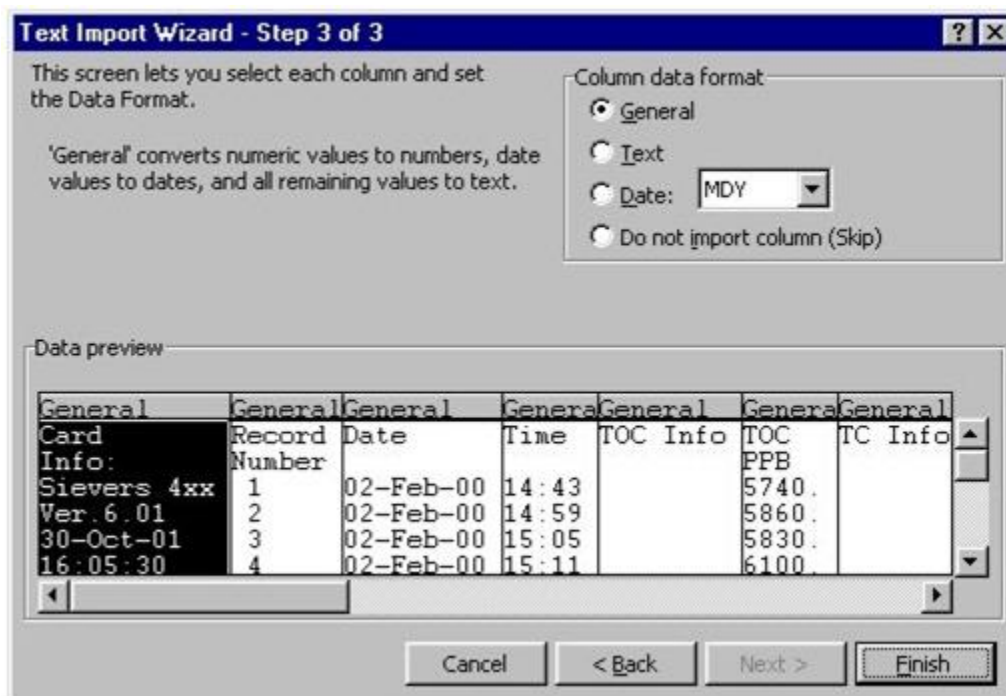

Figure 50: Text Import Wizard – Step 3 of 3
- Microsoft Excel shows a preview of the data that will be imported. You can highlight a column and assign a Column data format (Figure 50: Text Import Wizard – Step 3 of 3). Click **Finish** to continue.